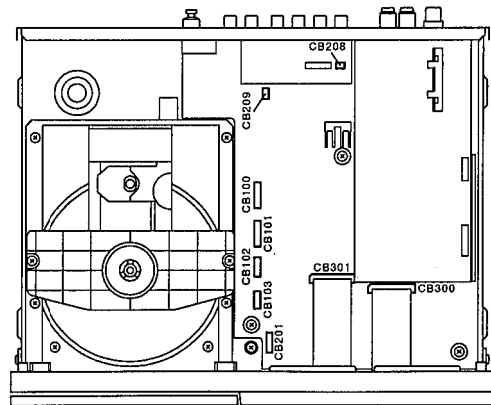

Fig. 2
- a. Press the OPEN/CLOSE key and open the tray. Then remove the Lid attached to the front edge of the tray in Fig. 2. Press the OPEN/CLOSE key and close the tray, then unplug the power cord.
- b. Remove 5 connectors in Fig. 2.
- a. Remove 4 connectors in Fig. 2.